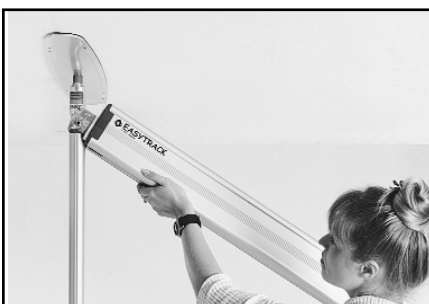

Figure 19
17. Raise the rail slightly and extend the rail to the second standard post (not the post designated to be the 'pivot' post) (Figure 19).
- Take the flat blue cap off of the end of the rail (Figure 19).
- d. Snap the flat blue cap onto the end of the rail (Figure 19).
- a. Remove the flat blue end cap from the end of the pivoting rail (Figure 19).